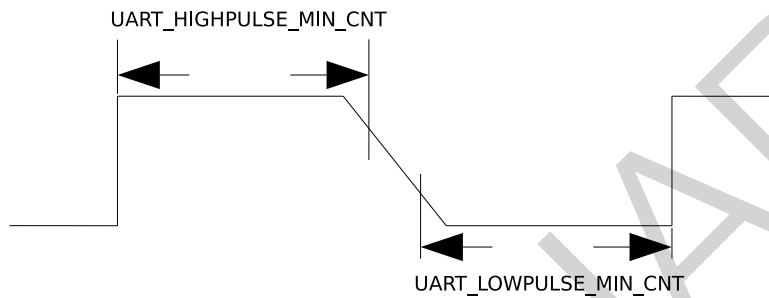

Figure 25-4. The Timing Diagram of Weak UART Signals Along Falling Edges
2. If UART signals are weak along falling edges as shown in Figure 25-4, which leads to inaccurate average of `UART_LOWPULSE_MIN_CNT` and `UART_HIGHPULSE_MIN_CNT`, use `UART_POSEDGE_MIN_CNT` to determine the transmitter's baud rate as follows: